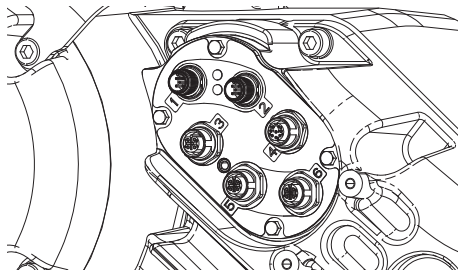

FIG. 47
- c. Loosen the cord grip (CG).
- d. Remove wires from Driver housing by pulling them through the cord grip (CG).
- e. Disconnect the cables connected to ports 1-6 on the side of the Driver (AB), shown in FIG. 47.